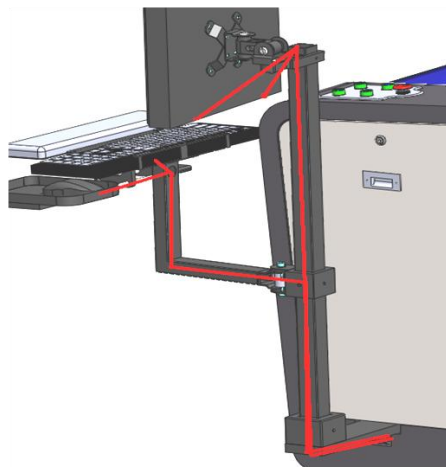

Fig.3-8 The line sketch map of display, keyboard and mouse (red is the connection)
- Put the keyboard and mouse in proper position and refer to Fig.3-8 for the wire path